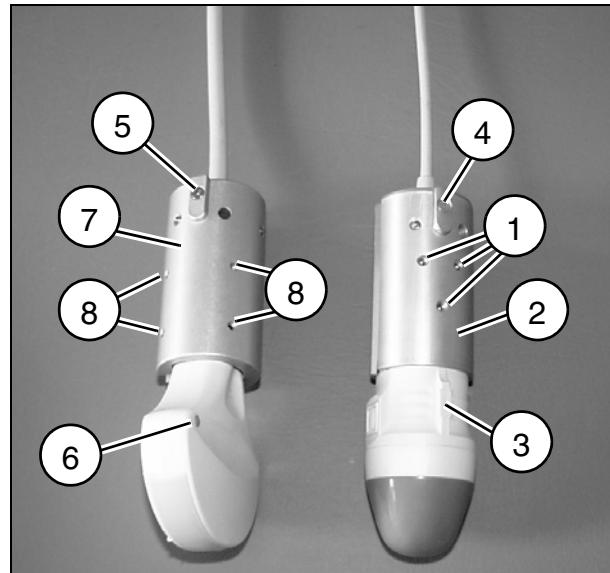

Fig. 40
- Loosen the 6 screws (3 are not visible) (1/Fig. 40) and remove the sleeve (2/Fig. 40).
- Attach the sleeve on the new probe. Pay particular attention to the positioning, the marking (3/Fig. 40) and (4/Fig. 40) must form a line.
- Loosen the 8 screws (4 are not visible) (8/Fig. 40) and remove the sleeve (7/Fig. 40).
- Attach the sleeve on the new probe. Pay particular attention to the positioning, the narrow side with the orange dot (6/Fig. 40) and (5/Fig. 40) must form a line.